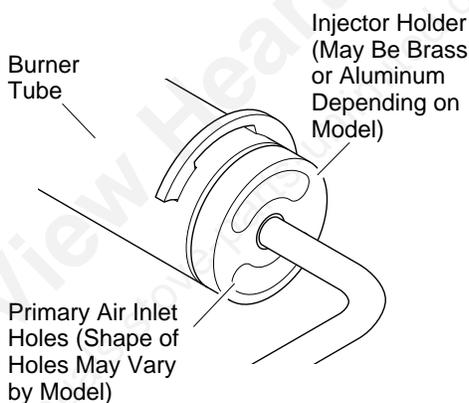

Figure 42 - Injector Holder On Outlet Burner Tube
2. Inspect burner, pilot, and primary air inlet holes on injector holder for dust and dirt (see Figure 42).